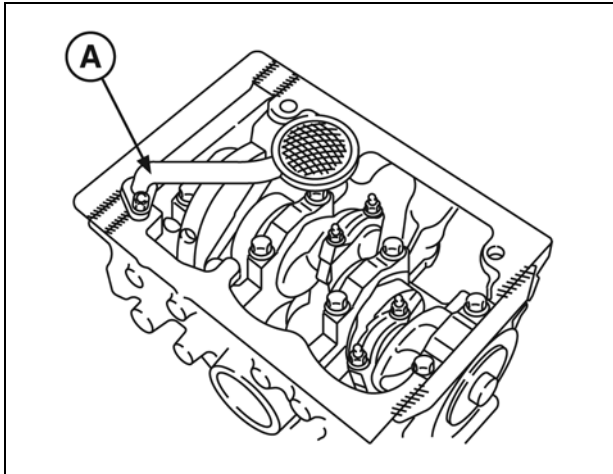

Figure 7
- 7. Remove oil pick-up tube (A, Figure 7) and strainer. Discard gasket.